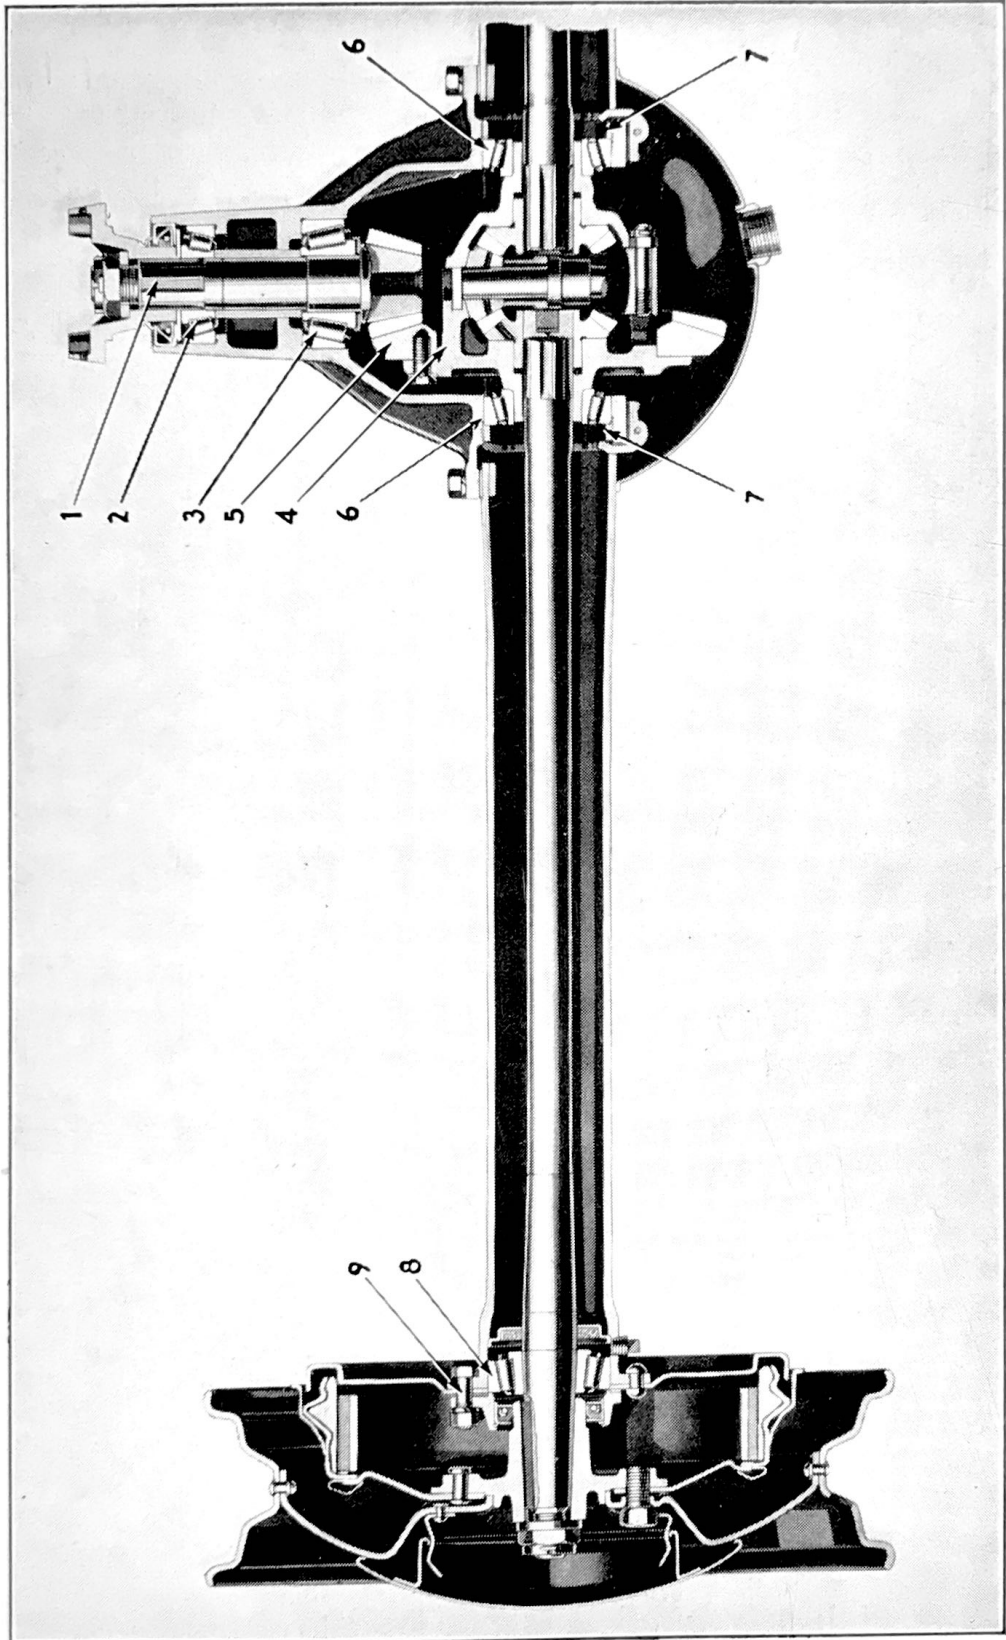

Figure 45
The pinion (1), Fig. 45, is supported on two tapered roller bearings, (2) front and (3) rear. These bearings are accurately adjusted under load and their ad-